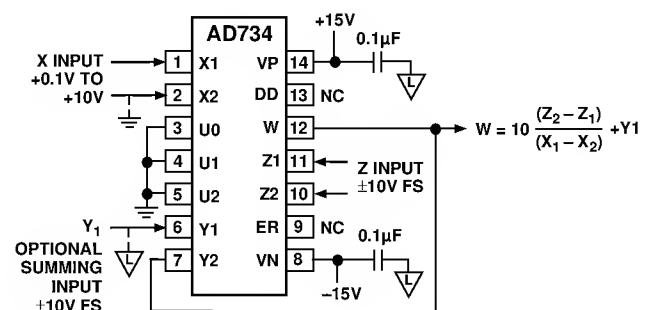

Figure 8. Standard (AD534) Divider Connection
the AD 734 can be operated using the standard (AD 534) divider connections (Figure 8), when the negative feedback path is established via the Y_2 input. Substituting W for Y_2 in Equation (2), we get
Figure 8 shows the connections for the standard (AD 534) divider mode. Feedback from the output, W , is now taken to the Y_2 (inverting) input, which, provided that the X -input is positive, establishes a negative feedback path. Y_1 should normally be connected to the ground associated with the load circuit, but may optionally be used to sum a further signal to the output. If desired, the polarity of the Y -input connections can be reversed, with W connected to Y_1 and Y_2 used as the optional summation input. In this case, either the polarity of the X -input connections must be reversed, or the X -input voltage must be negative.